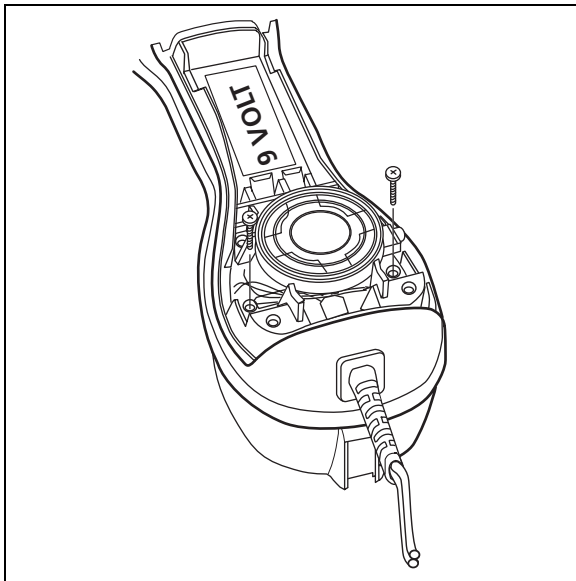

Figure 6. Removal/Installation of Line Cord Screws
- 3 Loosen the two screws that hold the line cord to the PC board (Figure 6).